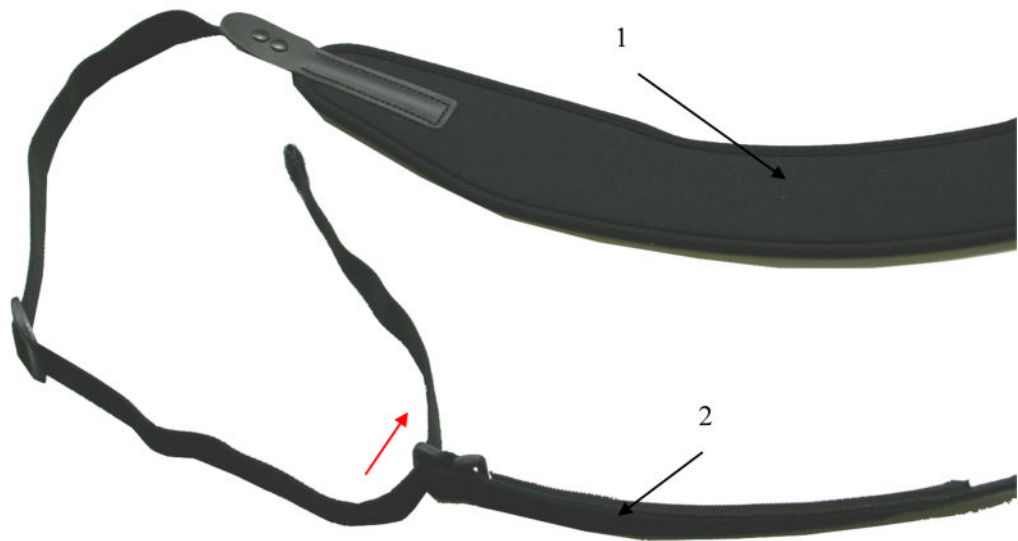
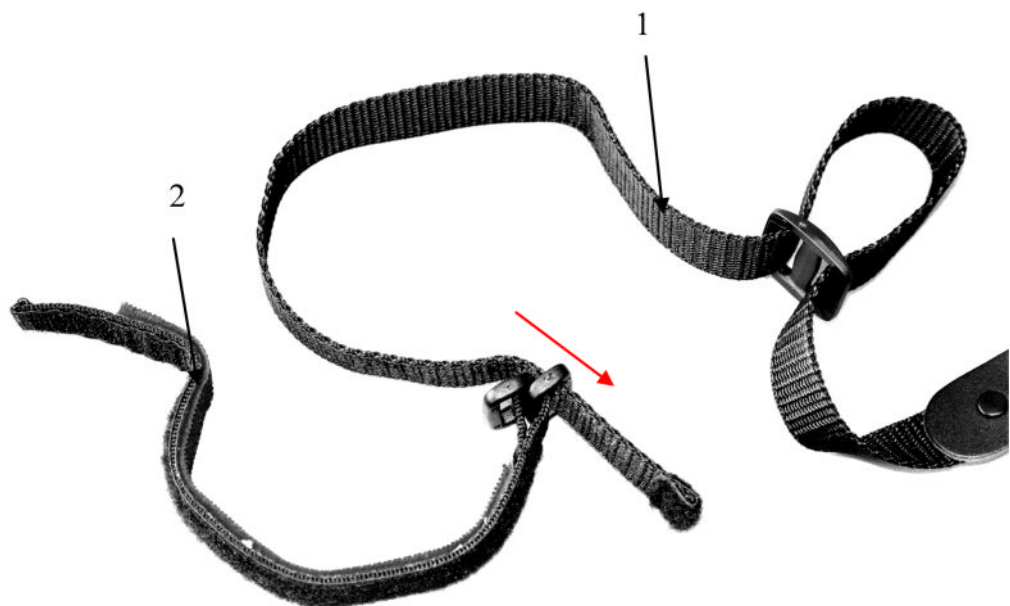
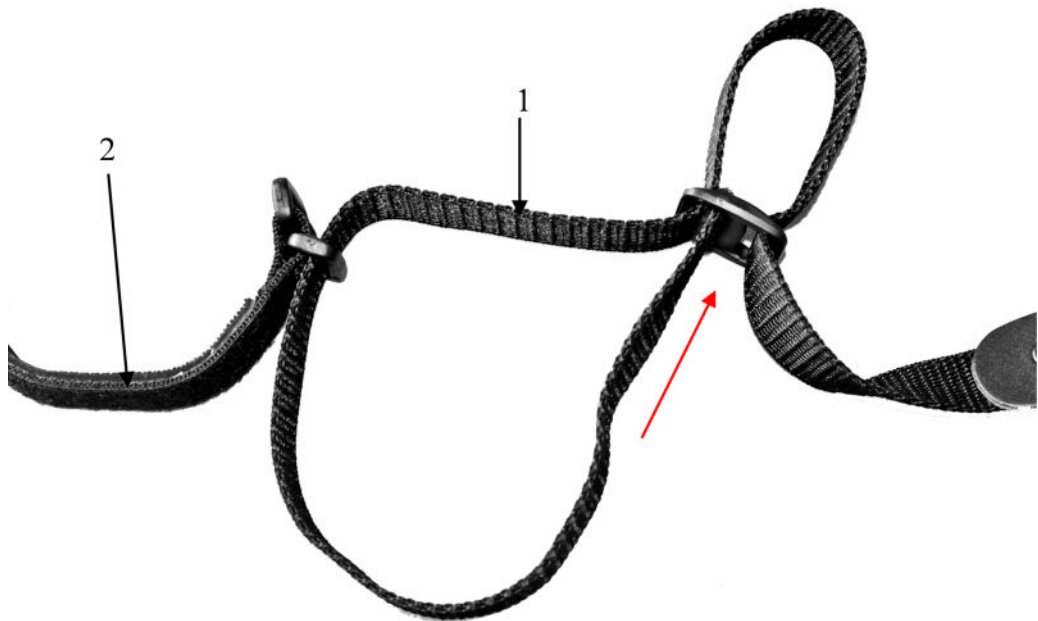

Fig. 2-2: Attaching the fastening strap, step 1.
Fig. 2-3: Attaching the fastening strap, step 2.
Fig. 2-4: Attaching the fastening strap, step 3.
- Attach the two fastening straps to the belt as shown in , figure 2-2, figure 2-3 and figure 2-4.
Make sure you insert the end of the belt in the plastic fastener facing away from the neoprene (see red arrow in figure 2-2).